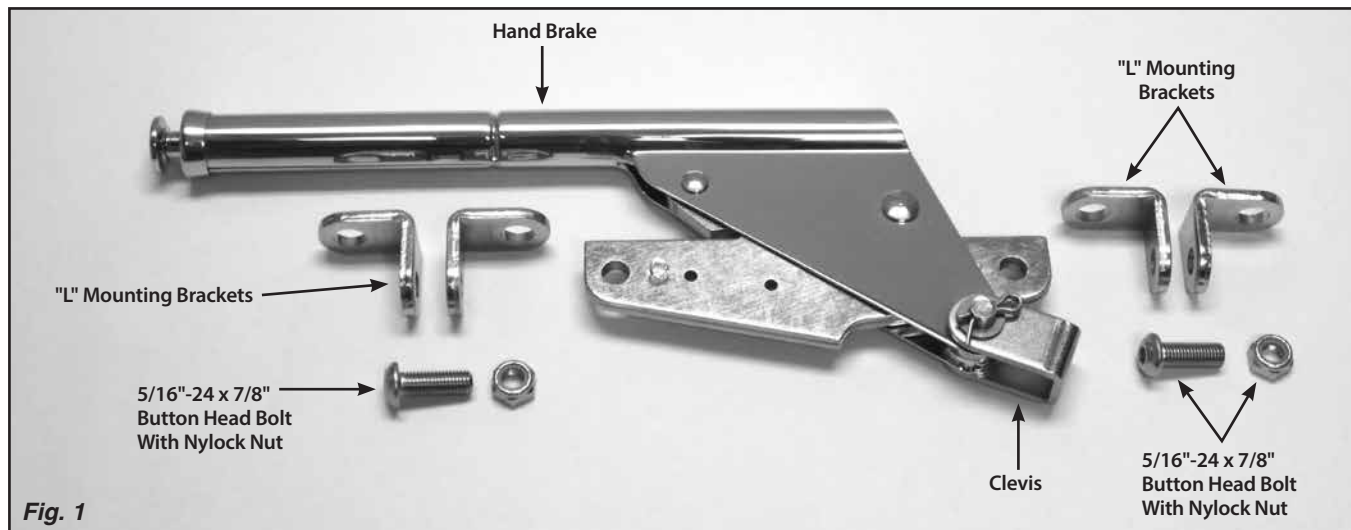
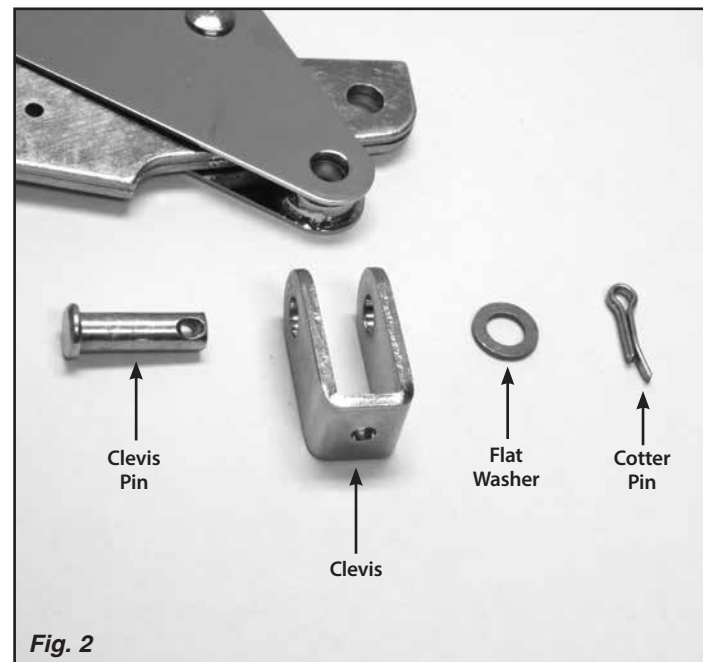

Fig. 1
Fig. 2
Refer to Fig. 1 and Fig. 2 for the component names.
Step 4: Remove the cotter pin and flat washer from the clevis pin and remove the clevis from the Hand Brake. Fig. 2 Insert the Hand Brake into the slot you just cut.